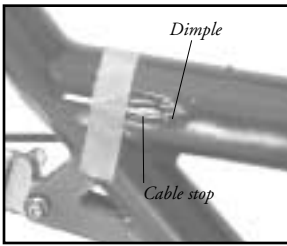

Fig. 18
1. With a hammer, lightly tap a punch, broad blade screwdriver, or similar tool (Fig. 19) against the cable housing stop (Fig. 18) until it sits flush with the frame dimple.